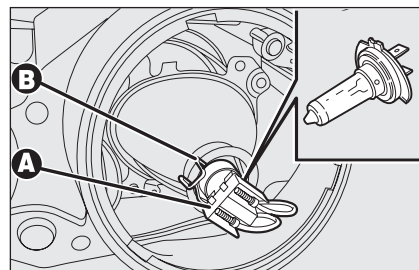

fig. 26
- disconnect the electric connector **A-fig. 26**;